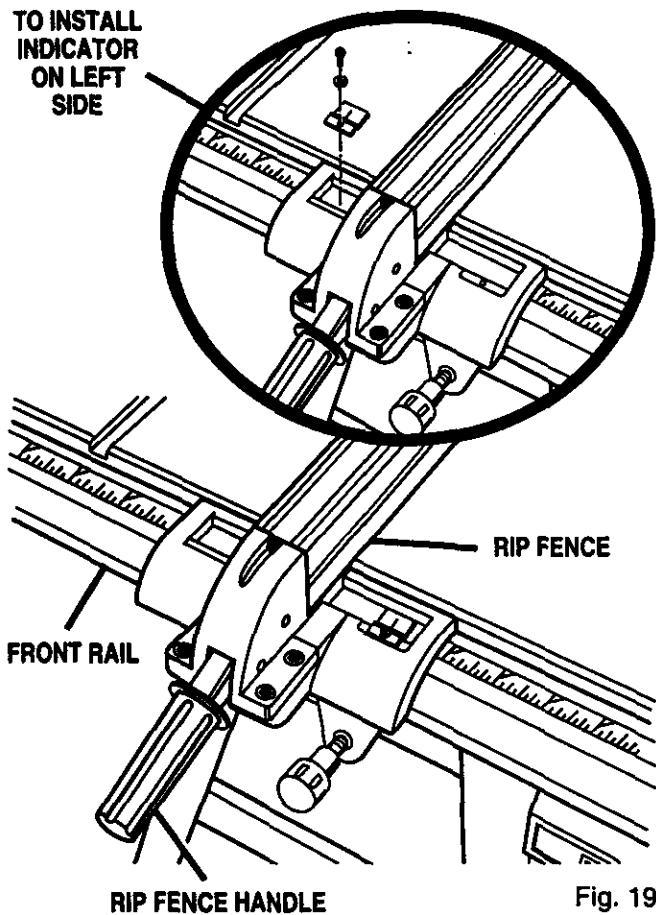

Fig. 19
- Slide the rip fence back and forth. It should move freely with about 1/16 in. clearance between the rip fence and table surface. If it doesn't, loosen the nuts holding the front rail and adjust the rail up or down. See Figure 19.